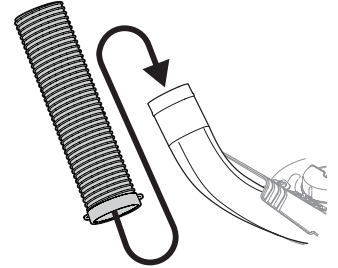

Figure 25
2. Lift by the handles at the bottom of the chute tube. Slide the chute tube over the chute elbow mounted on the cutting deck, as shown in Figure 25.